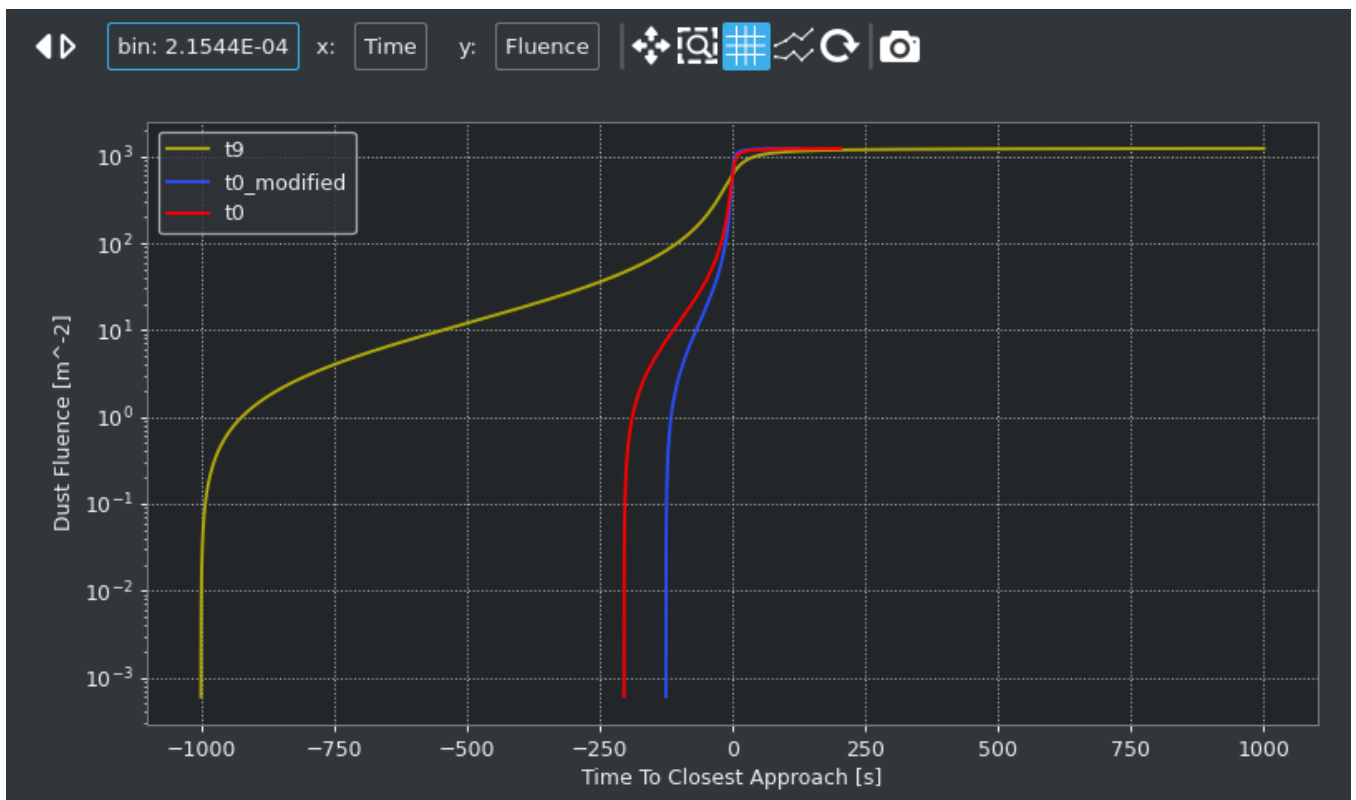

Figure 12: ComMoDE Visualization Environment - trajectory mode
Once the trajectories post-processing produced valid results¹², the User can access the visualization environment (figure 12,13).
- Toggled OFF: enable the default mode of visualization (*trajectories*), e.g. once a particular bin size of the particle size distribution is fixed, the User can plot simultaneously data referring to one or multiple trajectories. See an example in figure 12.